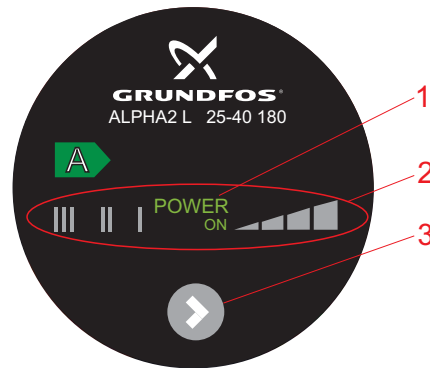

Fig. 7 GRUNDFOS ALPHA2 L control panel
The "POWER ON" indicator light, see fig. 7, pos. 1, is on when the electricity has been switched on.
GRUNDFOS ALPHA2 L has seven optional settings which can be selected with the push-button. See fig. 7, pos. 3.
Every time the push-button is pressed, see fig. 7, pos. 3, the pump setting is changed.